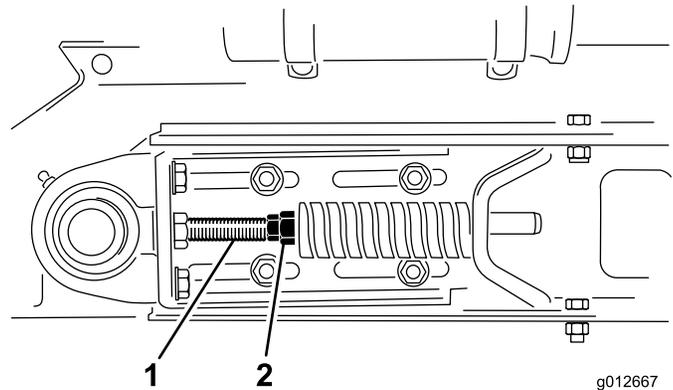

**Figure 20**
- 1. Remove chain cover (Figure 20).